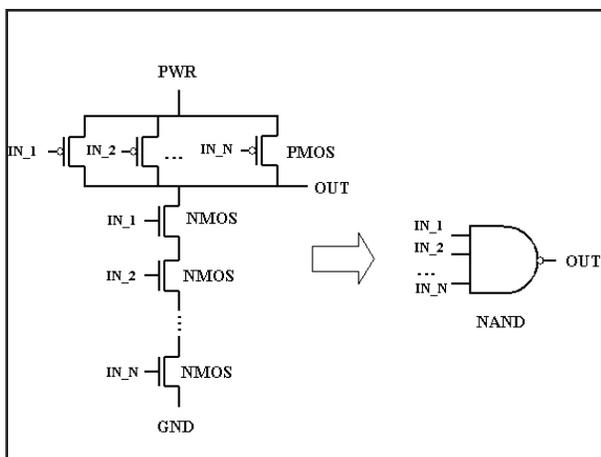

Figure 4. NAND_N
- **NAND_N** — CMOS **NAND** with N inputs (Figure 4)